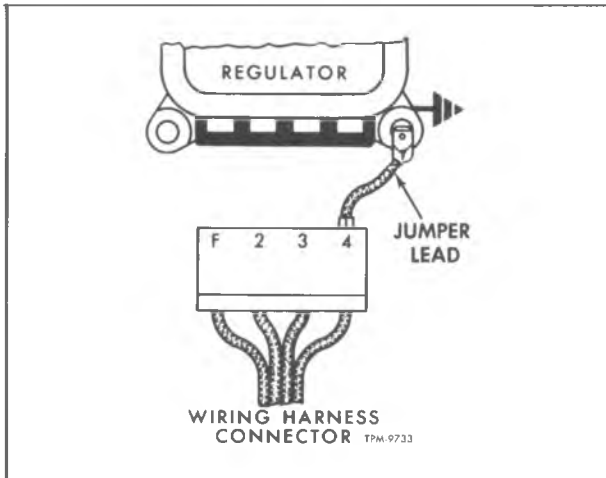
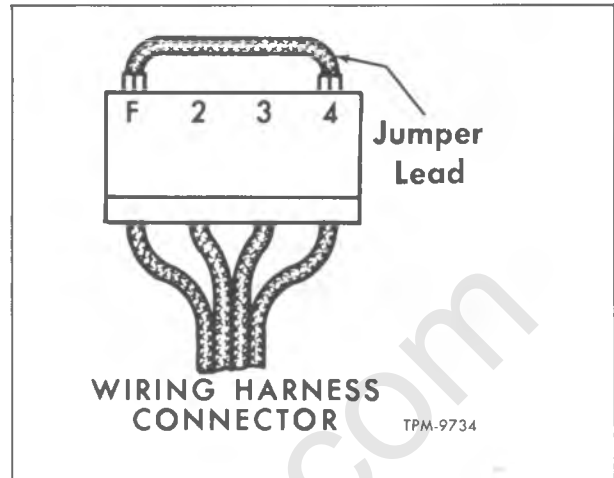

Figure 5—Jumper Lead Connections for Testing Indicator Lamp Circuit (Typical)
Figure 6—Checking Indicator Lamp Wiring
4. Referring to figure 5, insert jumper lead (J-9782-1) into #4 terminal socket in harness connector and ground the other end to regulator base as illustrated. Momentarily (not more than 10 seconds) turn on ignition or control switch. Indicator lamp should light. If not, check for open circuit in wiring between the jumper lead and switch, switch and horn relay, and to the battery.
5. If indicator lamp comes on when #4 socket in wiring harness connector is grounded (fig. 5), connect jumper lead between wiring harness connector terminals "F" and #4 as shown in figure 6. Turn ignition or control switch on momentarily.